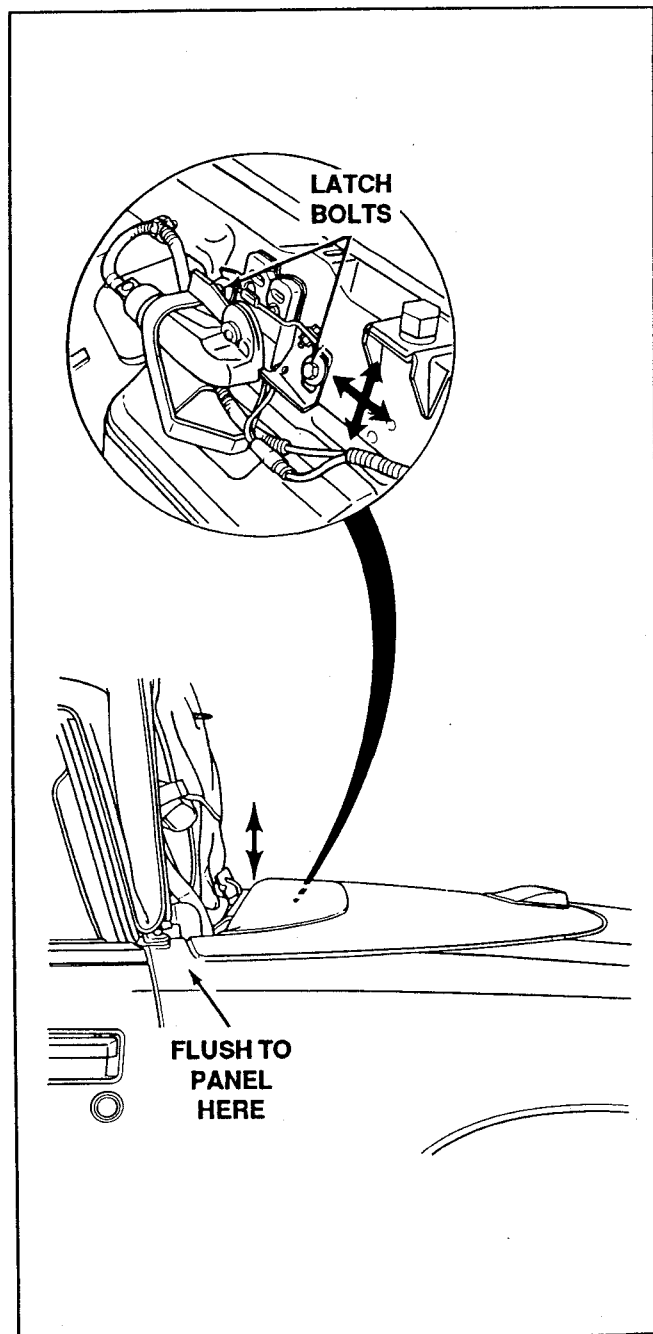

Figure 52. Adjust Latches to Receivers for Panel Flushness
4. Align the stowage panel flush with the quarter panel. Tighten the bolts (Fig. 52).